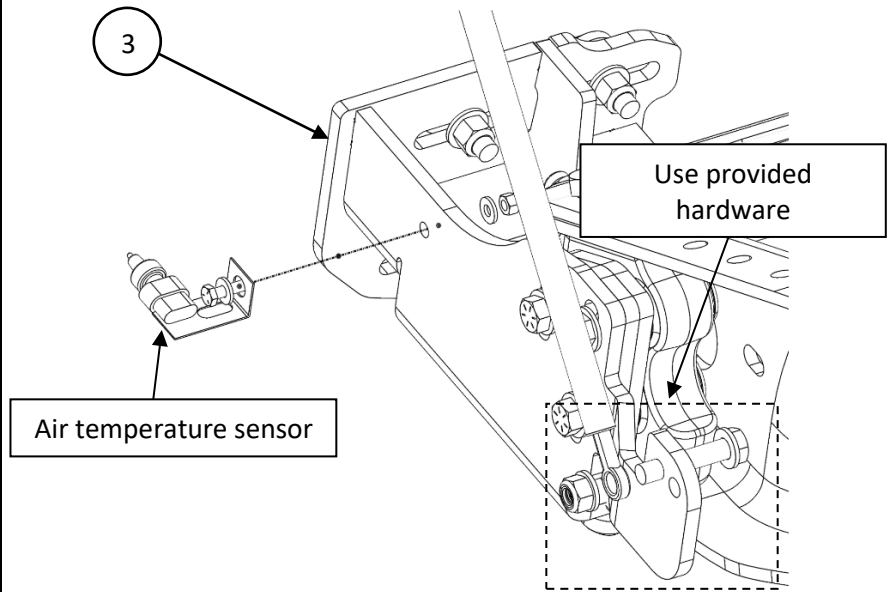

Figure 9a – Typical Wide Rad. Trucks Air Temperature Sensor and Hood Strut Reinstallation (Driver Side Shown).
9. a) Typical of wide rad. trucks, Install previously removed air temperature sensor onto Herd submount (Item 3). Reattach hood struts to Herd submount's front hole on both driver side and passenger side, using provided hardware as shown in Figure 9a.